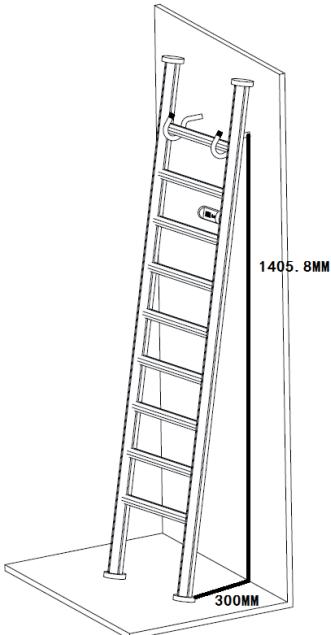

Fig 4
3. As shown in Figure 4, hang the product into the C-hook and screw on the nut.